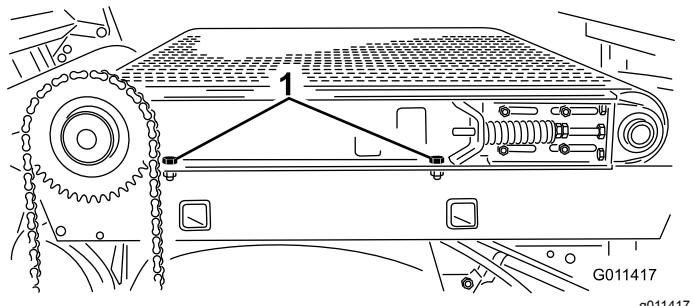

Figure 34
- Loosen 2 cap screws, washers, and nuts on the right side of machine, securing the slider bed to the frame (Figure 34). Ensure that the fasteners are loose enough to allow the slider bed to be tipped.